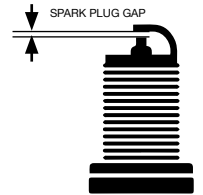

Figure 22
- Spark plug gap (the acceptable limit of 0.027–0.032 in. [0.70 – 0.80 mm]) (see Figure 22).